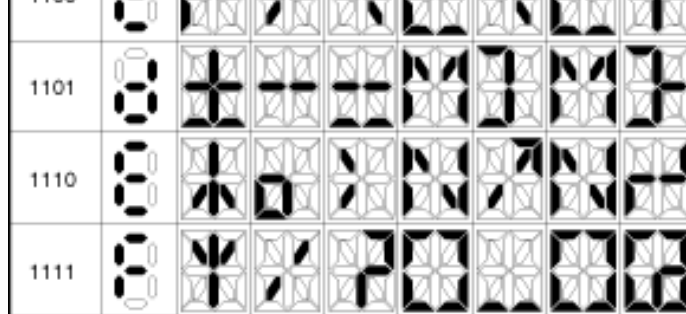

Figure 3. 16-Segment Display Font Map
Enable the display driver with global intensity control and without blinking by writing 0x01 to register 0x04. The internal oscillator powers as the MAX6954 exits shutdown and the oscillator output is available at OSC_OUT. Notice that the 16-segment displays remain blank, as the power-up state of digit control registers 0x60 to 0x67 is 0x20 or no segments lit (see Table 2 and Figure 3).
The MAX6954 includes a 104-character ASCII font map for 16-segment displays. The characters follow the standard ASCII font, with the addition of the following common symbols: £, €, ¥, °, μ, ±, ≠, and ø. Seven bits represent the 104-character font map; an 8th bit is used to select whether the decimal point (DP) is lit (Table 4). Digit registers are implemented with two planes, P0 and P1. Each digit is represented by 2 bytes of memory, 1 byte in plane P0 and the other in plane P1 (see Table 7). The digit registers are mapped so that a digit's data can be updated in plane P0 (registers 0x20 through 0x27), plane P1 (registers 0x40 through 0x47), or both planes simultaneously (registers 0x60 through 0x67). The data in the digit registers does not control the digit segments directly for 16-segment displays. Instead, the register data is used to address a character generator that stores the data for the 16-segment font (Figure 3). The lower 7 bits of the digit data (D6 to D0) select the character from the font. The most significant bit of the register data (D7) controls the DP segment of the digits; it is set to 1 to light DP, and to 0 to leave DP unlit.
As an example let's display eight characters, "MAXIM-IC," using the MAX6954. We disabled the blink functionality when we programmed the configuration register, so data can be written to the 0x20 through 0x27 registers to control digit 0 through digit 7, respectively. Using the font map in Figure 3 determine the code equivalent for each character: